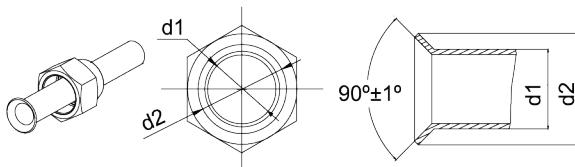

Fig. 4.9
- (1) Cut the connection pipe with the pipe cutter and remove the burrs.
- (2) Hold the pipe downward to prevent cuttings from entering the pipe.
- (3) Remove the flare nuts at the stop valve of the outdoor unit and inside the accessory bag of the indoor unit, then insert them to the connection pipe, after that, flare the connection pipe with a flaring tool.
- (4) Check if the flare part is spread evenly and there are no cracks (see Fig. 4.9).